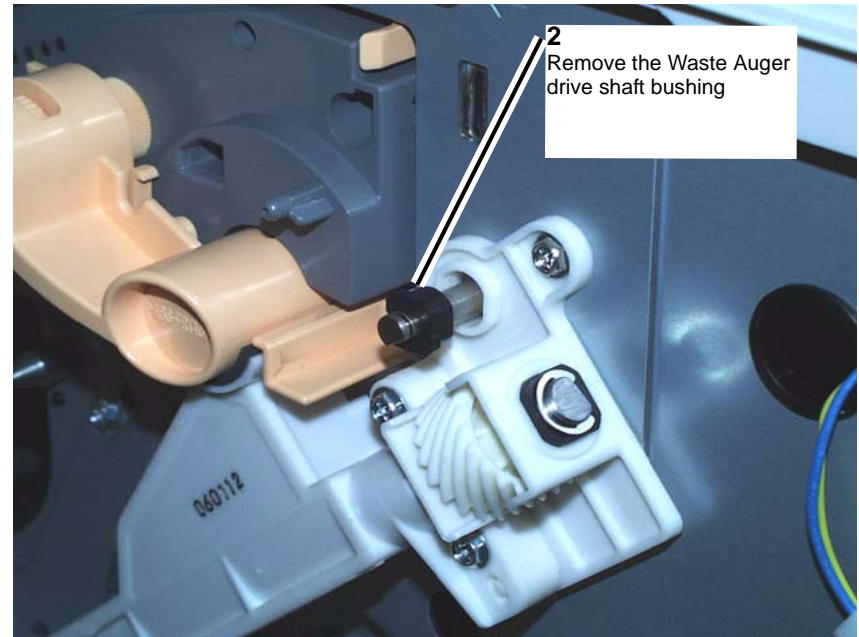

Figure 1 Removing the Waste Auger drive shaft bushing
2. Remove the Waste Auger drive shaft bushing. (Figure 1)